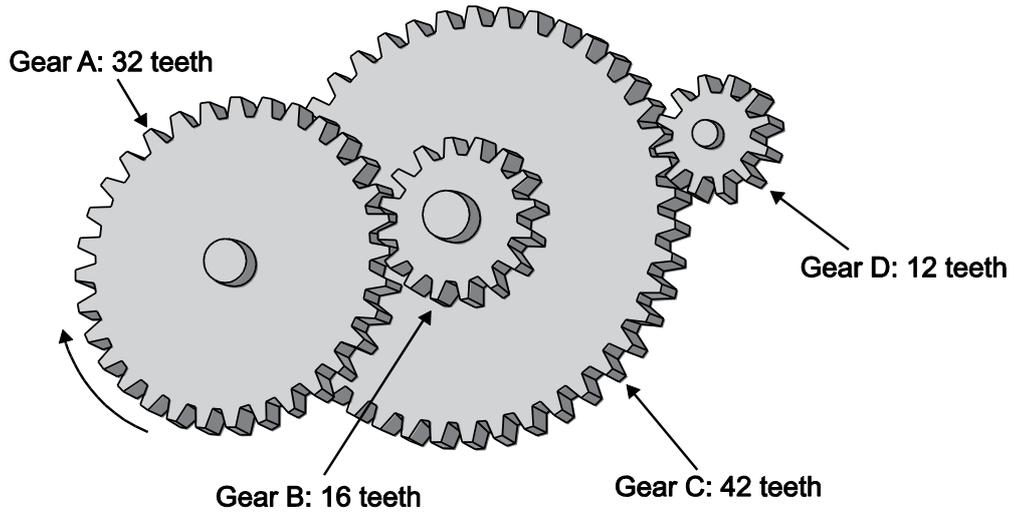

Fig. 11
- (d) Fig. 11 shows a gear system consisting of four gears; A, B, C and D. Gears B and C are fixed onto a common shaft. The driver gear A rotates in a clockwise direction.